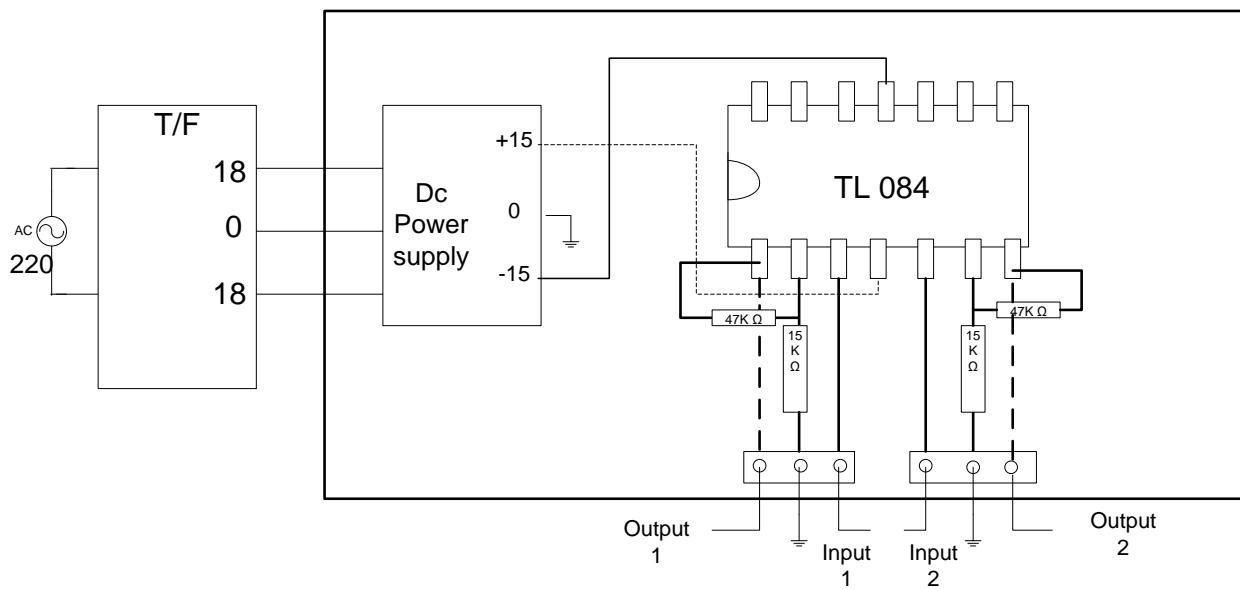

Fig. 3. Details of Non inverting amplifier circuit board.
- a. One board of non-inverting amplifier circuit has two amplifier circuits in it. (see fig3). It has an inbuilt power supply of  $\pm 15V$ . Two signals for the switches (switches 1 and 4 or 3 and 2) of same leg should be given in the same board. The output of the amplifier should be fed to driver circuits. And the same board should be used to give the power supply to the driver circuit (Skyper32). Care should be taken that before switching on the ac power given to the amplifier board, signals from the dSpace board is given to the respective tagged wires of the circuit.